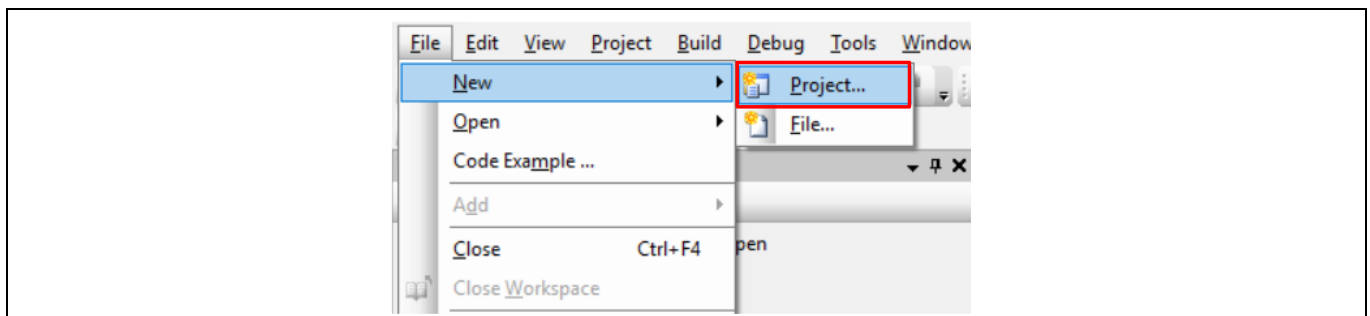

Figure 33 Creating a new project
1. Start PSoC™ Creator, and from the **File** menu choose **New > Project**, as shown in **Figure 33**.